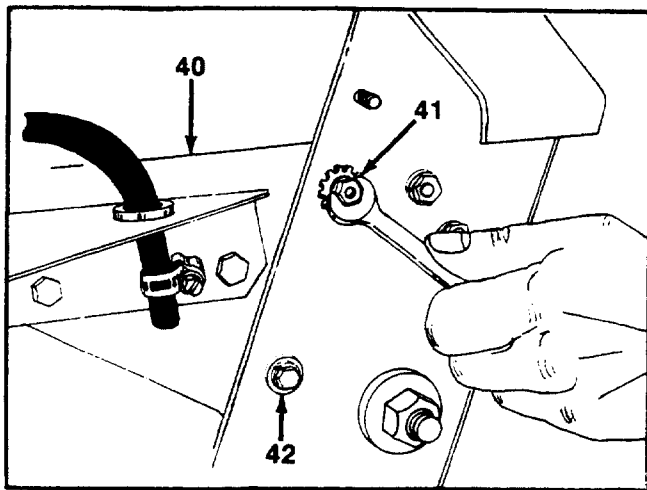

FIGURE 22.
25. Remove one bolt and lock washer from each side of the battery tray lower mounting position. Remove one bolt and flat washer from each side of the battery tray upper mounting (slotted hole) position. See figure 22.